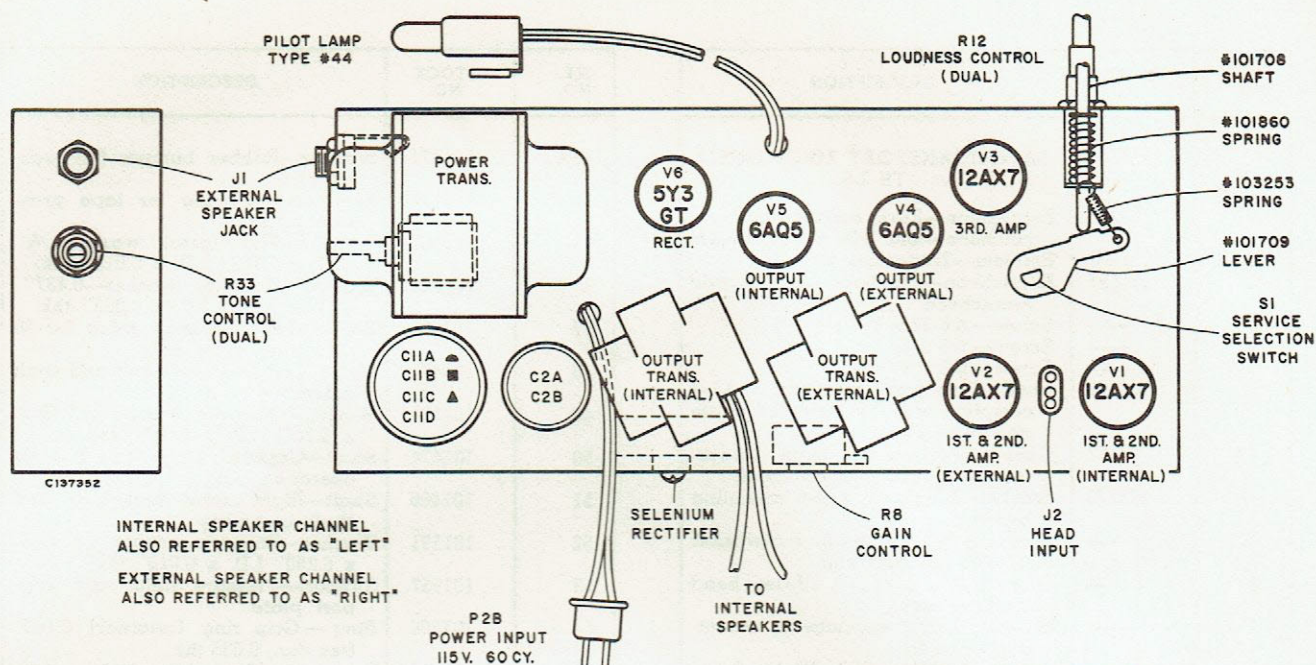

Figure 10—View of Amplifier Chassis
8. Adjust R8 (gain control) to obtain the same indication on the output meter as was noted in Step 4. Refer to figure 10 for location of the gain control.